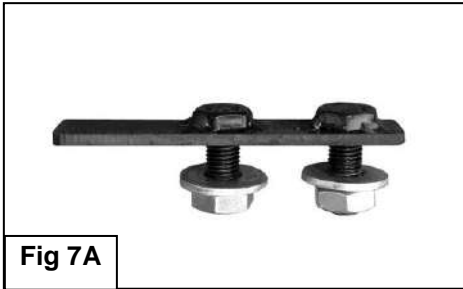
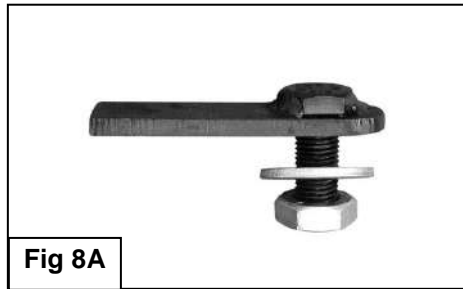

Fig 7A
Fig 8A
3. Select (1) 12mm Double Bolt Plate, (**Figure 7A**). Insert the Bolt Plate into the end of the frame, through the (2) holes in the side of the frame and out through the Bracket. Secure the Bracket to the Bolt Plate with (2) 12mm Flat Washers, (2) 12mm Lock Washers and (2) 12mm Hex Nuts, (**Figure 7B**). Snug but do not fully tighten hardware at this time. Repeat this **Step** to install the 12mm x 35mm Single Bolt Plate, (**Figure 8A**), into the remaining hole in the other side of the frame channel and Bracket, (**Figures 8B & 8C**).